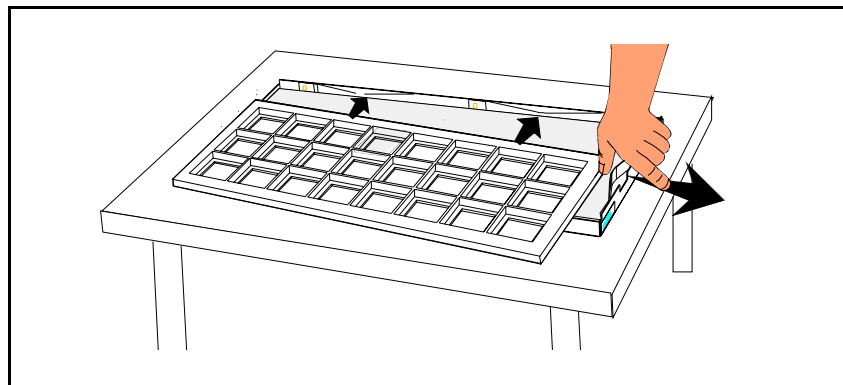

Figure 7-6. Inserting a tray in a pallet.
8. Insert a loaded component tray by pressing the short end spring of the pallet with a finger and carefully sliding the tray towards the two springs at the long side of the pallet, see Figure 7-6.